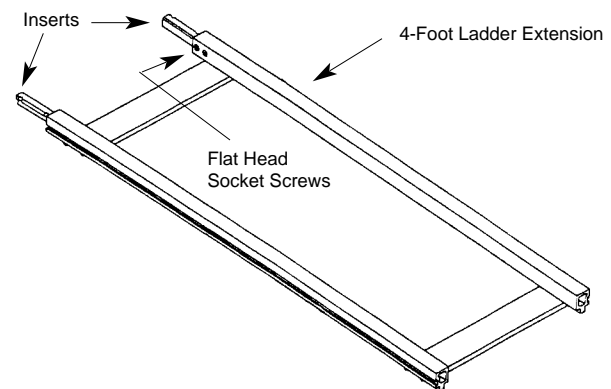

Figure 26
1. Remove flat head socket screws from inserts and slide inserts into extrusions of 4-foot ladder extension. Then align holes in insert with pre-drilled holes in extrusions and reinsert the screws. (See Figure 26.) DO NOT tighten the screws at this time.